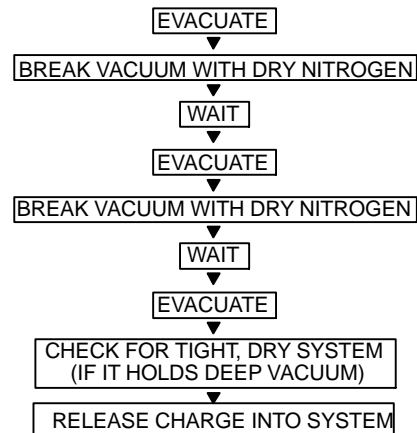

Fig. 9 – Triple Evacuation Method
The triple evacuation method should be used. Refer to Fig. 9 and proceed as follows:
- 5 Repeat this procedure as indicated in Fig. 9. System will then be free of any contaminants and water vapor.